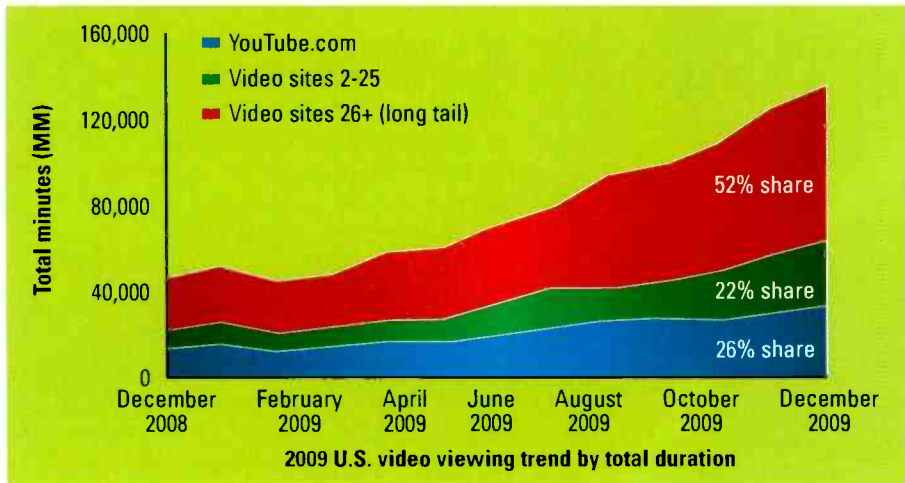

Figure 1. Americans viewed a significantly higher number of videos in 2009 than in 2008.
**O**TT video, or streaming media, is an evolving set of technologies that deliver multimedia content over the Internet and private networks. A number of online media platforms are dedicated to streaming media delivery, including YouTube, Brightcove, Vimeo, Metacafe, BBC and Hulu. Streaming video delivery is growing dramatically. According to the comScore 2009 U.S. Digital Year in Review Video Metrix, Americans viewed a significantly higher number of videos in 2009 than in 2008 (up by 19 percent) because of both increased content consumption and the growing number of video ads delivered. (See Figure 1 on page 44.) In January 2010, more than 170 million viewers watched videos online. The average online viewer consumed 187 videos in December 2009, up 95 percent over the previous year, and the average video duration grew from 3.2 to 4.1 minutes. Hulu, for example, in that same month delivered more than 1 billion streams for a total of 97 million hours. According to comScore, the character of video viewing is changing as well, with more people watching longer content.